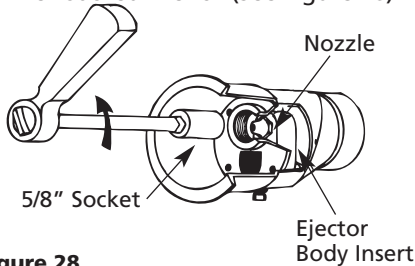

Figure 28
- Remove nozzle (if necessary) by unscrewing it with a 5/8" deep well socket wrench (See Figure 28).